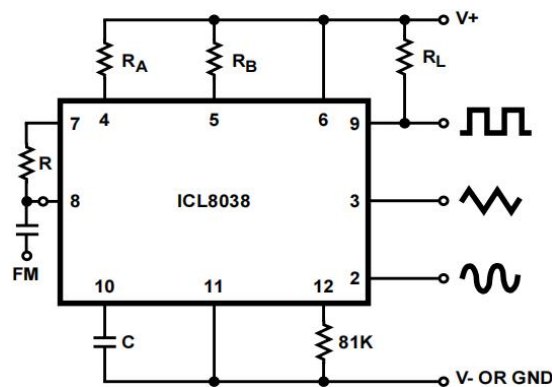

FIGURE 5A. CONNECTIONS FOR FREQUENCY MODULATION
2. $V_{SUPPLY} = 20V$; RA and RB = $10k\Omega$, $f \cong 10kHz$ nominal; can be extended 1000 to 1. See Figures 5A and 5B.
The frequency of the waveform generator is a direct function of the DC voltage at Terminal 8 (measured from V+). By altering this voltage, frequency modulation is performed. For small deviations (e.g. $\pm 10\%$) the modulating signal can be applied directly to pin 8, merely providing DC decoupling with a capacitor as shown in Figure 5A. An external resistor between pins 7 and 8 is not necessary, but it can be used to increase input impedance from about $8k\Omega$ (pins 7 and 8 connected together), to about $(R + 8k\Omega)$.